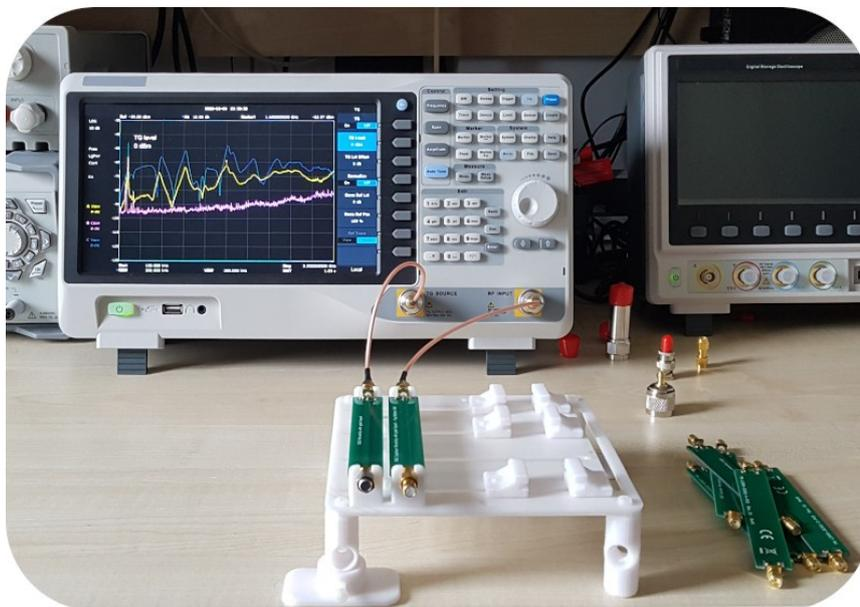

Figure 2: Test setup showing the PCB fixture details.
The PCBs are kept 6cm from the table and the center of each PCB is kept at 2cm from each other. The setup details are shown in Figure 2.
- Coupling between PCBs using the PLA PCB fixture (Figure 2).